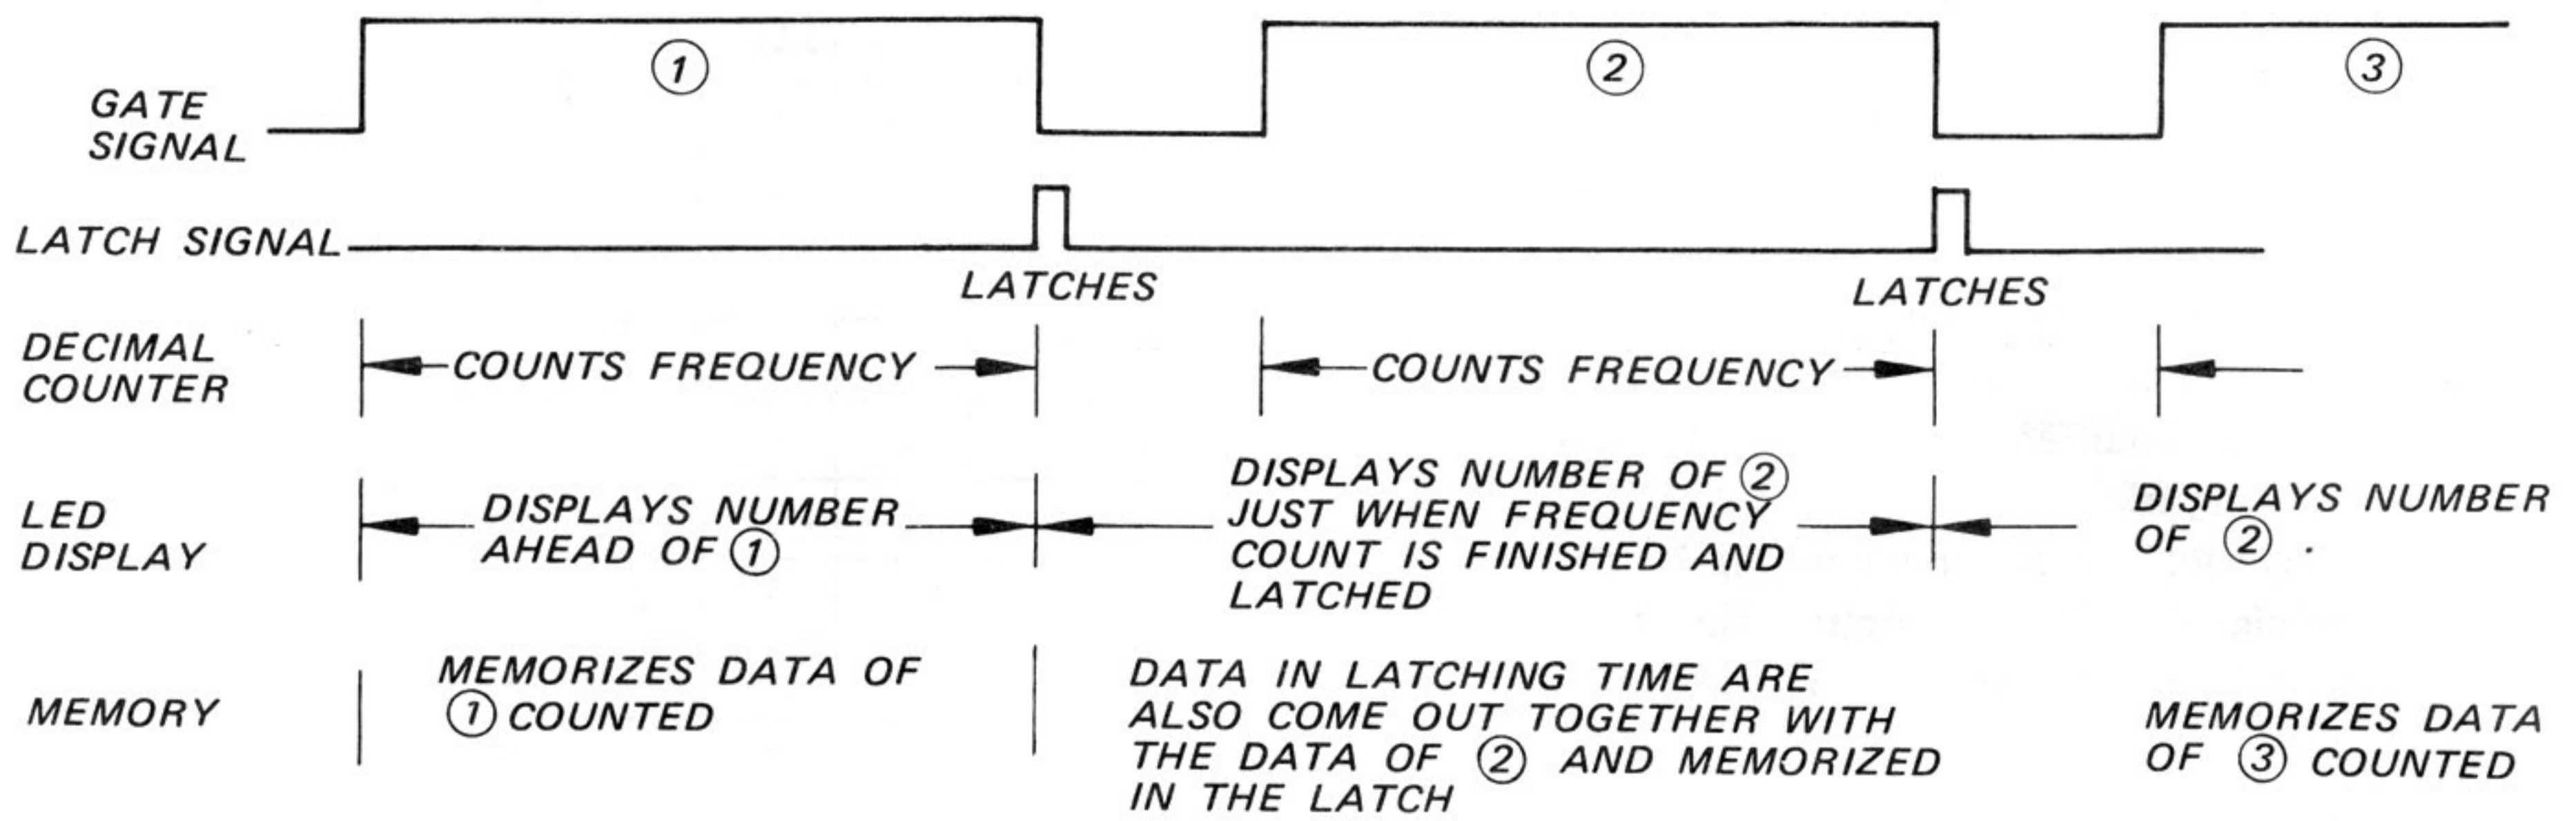

Fig. 36
**Latch Circuit (Refer to Fig. 36)**